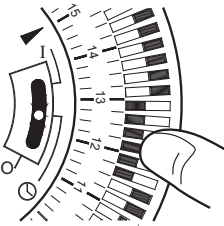
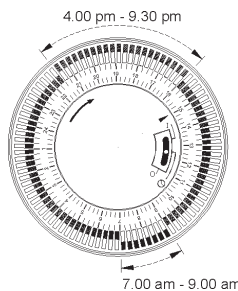

Fig. 4
Fig. 5
To set the time of day, rotate the timer dial clockwise (indicated by the arrow) until the correct time of day is opposite the reference mark  (see Fig. 4).
1. Using your finger tip or the tip of a pencil, push in as many segments as necessary around the dial, according to the times you don't require heat – see Fig. 4. Each segment pushed in switches the heater OFF for that part of the hour. All other segments will be ON. For example, Fig. 5 shows the timer set to switch the heater ON between 7 am and 9 am and between 4 pm and 9.30 pm .
Check that the clock shows the correct time of day. Set the I -  - O slide switch to  (see Fig. 4) - the convector will switch ON and OFF according to the timer settings (see Fig 5).